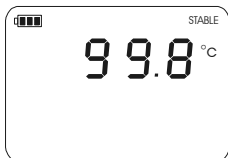

Figure 10: Unit goes to measurement mode
4. When the **cal** key is released, the unit will go to measurement mode (Figure 10).